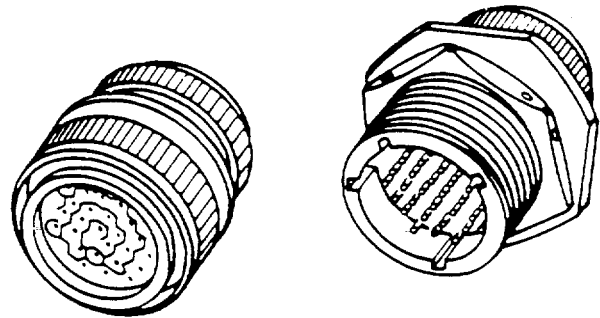

Figure 9. Typical Thread Coupling
16. **Threaded.** The threaded system (Figure 9) employs a captive. Internally threaded coupling ring that mates with the threads on the receptacle. Double start threaded connectors begin coupling within 180 degrees of rotation. Triple start threaded connectors begin coupling within 120 degrees of rotation.